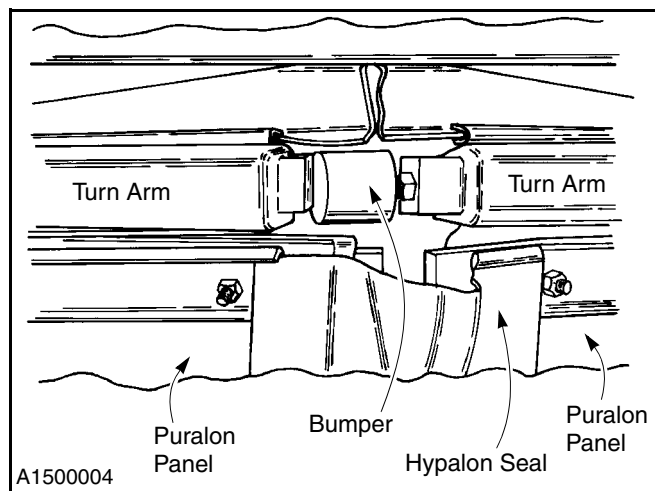

Figure 10
2. Check the spacing between each door panel. If the door is not closed completely, the leading panels will have a gap between them. If the door is closed too tightly, the rubber bumpers on the turn arms will be compressed. (See Figure 10.)